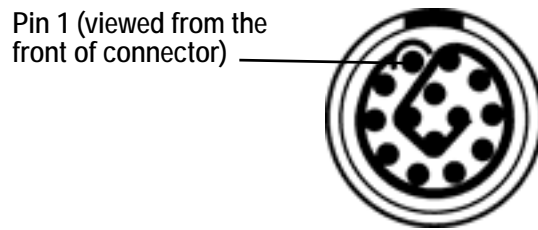

Figure 1-6 Position Sensor Connector Layout
**Connector (LEMO)** A 14-pin connector that provides power to the Position Sensor and allows communications to and from the Position Sensor. The LEMO connector is located on the back of Position Sensor. The connector details, internal to the Position Sensor, are shown in Figure 1-6 and Table 1-2.